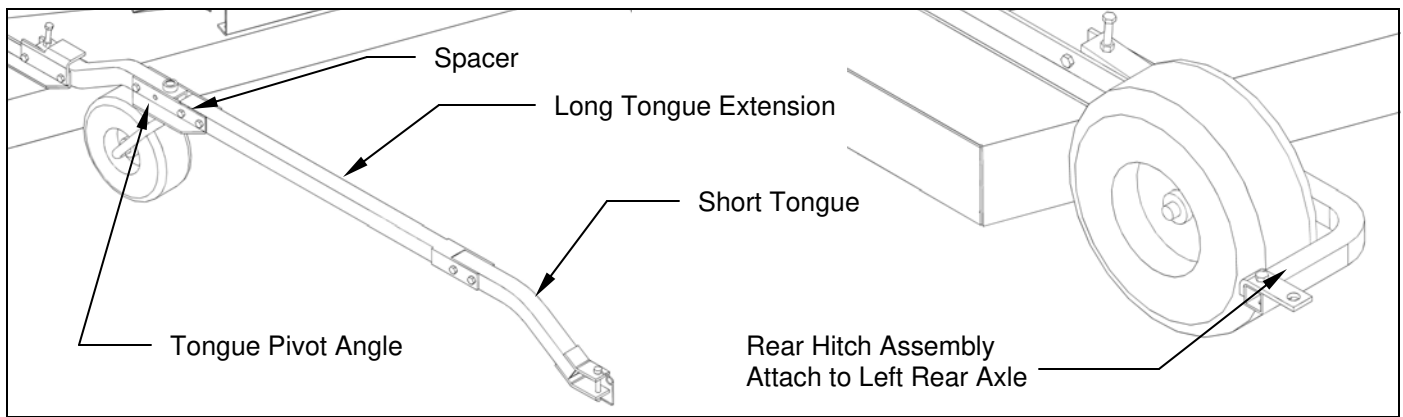

Figure 5: Long Tongue Assembly and Rear Hitch Assembly
1. When a long tongue is needed, remove the tongue pivot angles and spacer from the tongue assembly and attach to the tongue extension. **See figure 5.** Slip the tongue in between the two flats on the tongue extension and secure with 3/8" x 2-1/2" hex head bolts, lock washers, and nuts provided.
2. When a second mower is pulled behind the first mower in tandem, then the rear hitch can be installed on the left rear axle assembly. **See figure 5.** Secure with 3/8" x 3-1/4" hex head bolts, lock washers, and nuts provided.